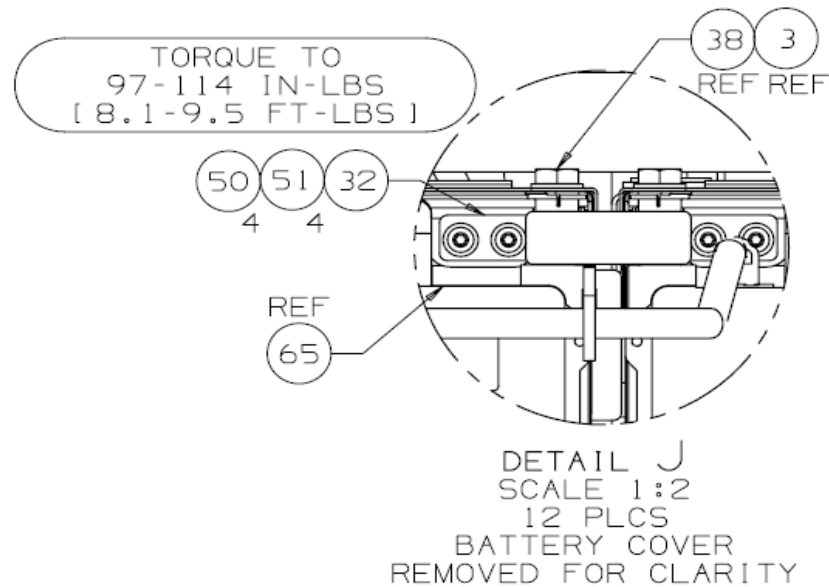

Figure 24: Module to Module bus bar connection location
- 93. Ensure the Bus Bars between each module are torqued to 97-114 IN-LBS. See Figure 24.